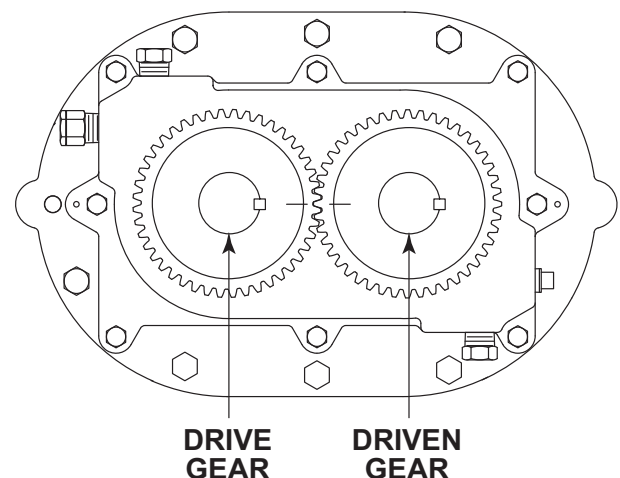

Figure 8-1 – Timing Marks Matched
4. Align the timing marks, count 3 teeth up, and place reference marks on the gears (see **Figure 8-1**).